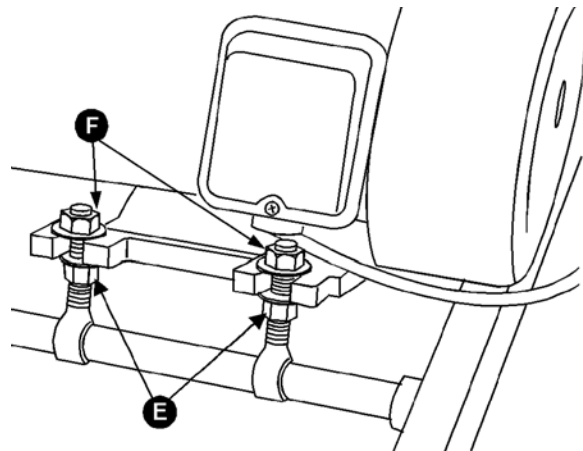

Figure 12
4. If adjustment of belt tension is necessary, loosen one pair of hex nuts (E & F, Figure 12) and turn the other pair to raise or lower the motor plate. Re-tighten nuts.